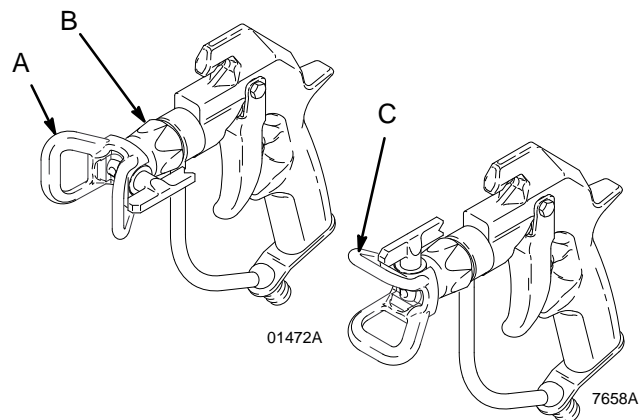

Fig. 3
1. **Relieve the pressure.** Loosen the retaining nut (B). Turn the tip guard so the groove in the tip is horizontal (C) for a horizontal pattern and vertical (A) for a vertical pattern. Tighten the retaining nut. See Fig. 3.